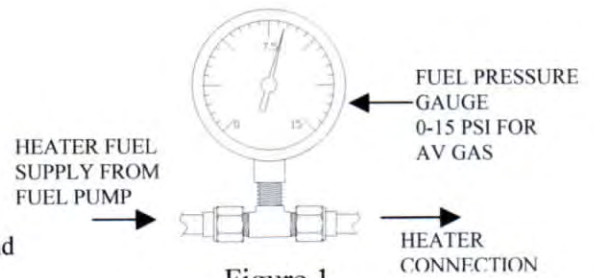

Figure 1
- B. Install the fuel pressure gauge (0-15). Tee into as shown. (Fig. 1)